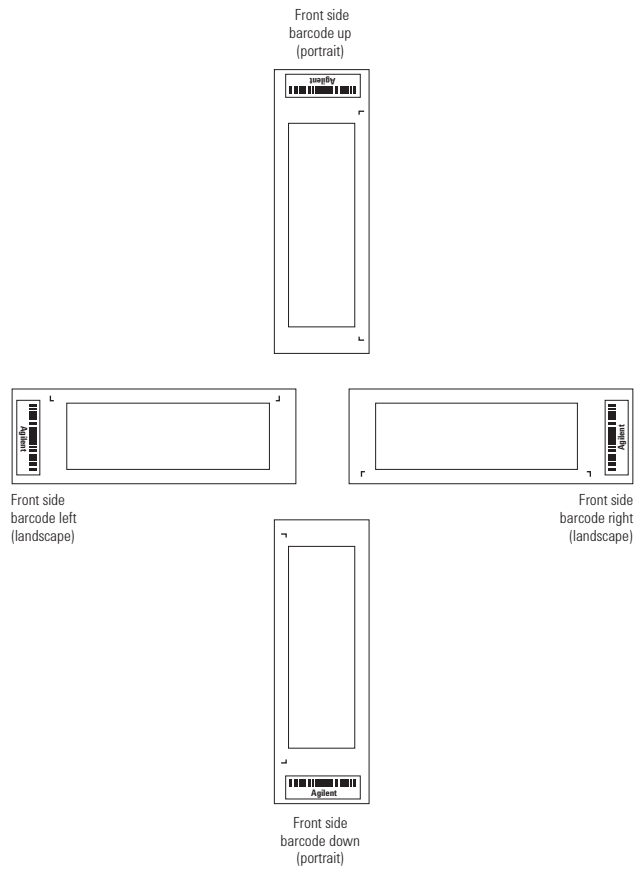

Figure 8 Microarray slide orientation
- If the microarray image produced by the non-Agilent scanner is oriented in a “portrait” or “landscape” mode, and “Agilent”-labeled barcode is on the left-side, right-side, up or down, as viewed as an image in the imaging software (see Figure 8).